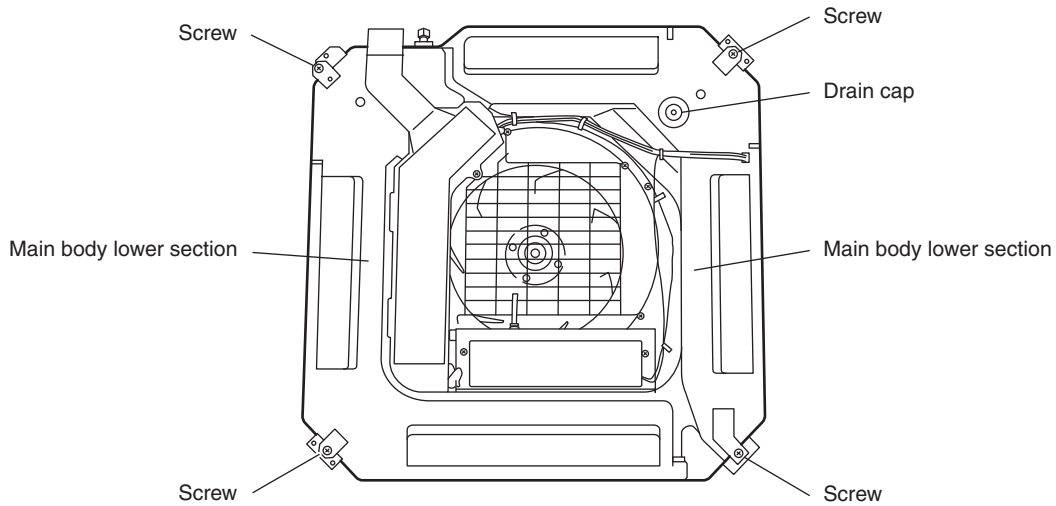

Fig.16
(Fig. 16)
- (1) Remove the 4 screws. (Fig. 16)